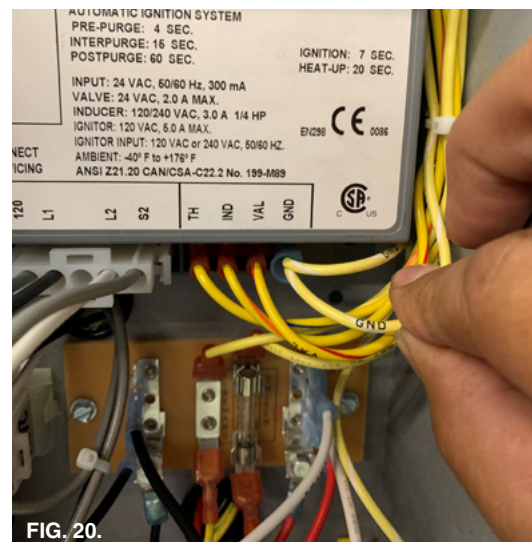

FIG. 20.
16. Connect the White/Yellow wire to GND ¼" tab at the ICM. (Fig. 20)